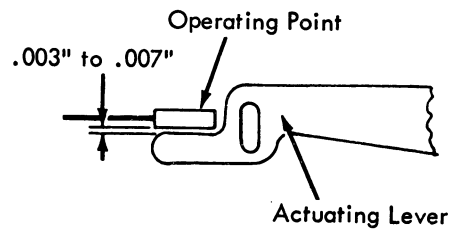

FIGURE 64. Mode Contact Actuating Lever
12. Position the contact bracket for a clearance of .003" to .007" between the operating strap and actuating lever (Fig. 64).